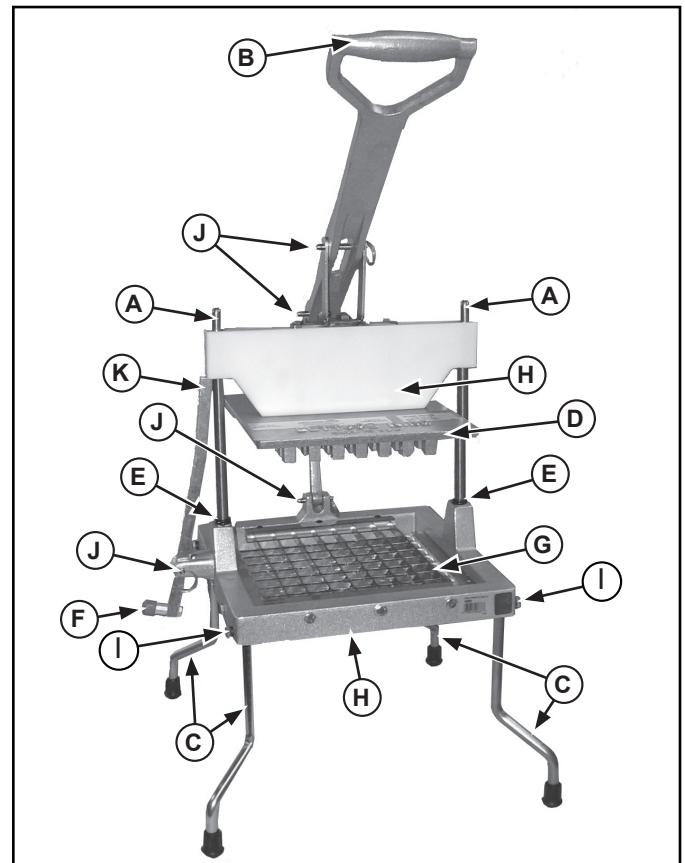

Figure 2. Features and Controls Lettuce King IV.
3. Set legs (C) into the holes in the base assembly (H) so the angled part of the leg faces outward. See Figure 2.
4. Secure legs (C) to base assembly (D) using screws (A) and rubber washers (B). See Figure 2.
Lettuce King IV: Hold the handle (B), remove hand from the blade assembly area and place that hand on the lock lever (F). Push lock lever (F) in to release the lock arm from the (D). See Figure 2
4. Remove the screws retaining the blade assemblies (I). Carefully remove and dispose the blade assemblies. See Figure 2.
5. Examine the pusher head (D). If they are nicked or burred, smooth the rough edges with a small flat file.
6. Verify that blade shields (BB) are installed on the blade assembly (DD and CC). See Exploded View for Lettuce King IV.
7. Place the lower blade assembly (CC) into the frame (H) so the it is positioned correctly and the sharp side up.
8. Install the screws into the left side of the blade assembly (CC). Tighten until contact is made with the frame (H). Turn the screw until tight, do not exceed 1/2 turn or 40 in. lbs.
9. Place rubber washer between the right side frame (H) and the blade assembly (CC). Insert the screws through the frame, and rubber washer into the blade assembly. Turn the screw until tight, do not exceed 1/2 turn or 40 in. lbs.
10. Place the upper blade assembly (DD) into the frame (H) so the it is positioned correctly and the sharp side up.
11. Install the screws into the front side of the blade assembly (DD). Tighten until contact is made with the frame (H). Turn the screw until tight, do not exceed 1/2 turn or 40 in. lbs.
12. Place rubber washer between the back side frame (H) and the blade assembly (DD). Insert the screws through the frame, and rubber washer into the blade assembly. Turn the screw until tight, do not exceed 1/2 turn or 40 in. lbs.